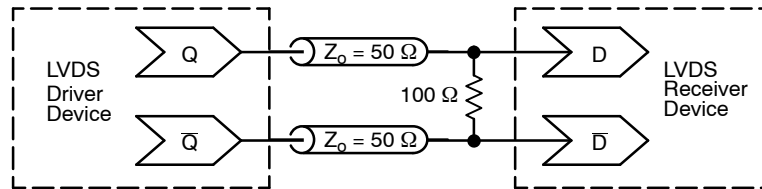

Figure 14. Typical LVDS Termination for Output Driver and Device Evaluation
- LVDS outputs require $100\ \Omega$ receiver termination resistor between diff. pair. See Figure 14.